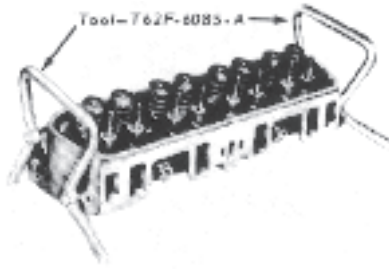

Fig. 19 Cylinder Head Holding Fixture 302 and 352-W
6. Install the cylinder head holding fixtures (Fig. 19).